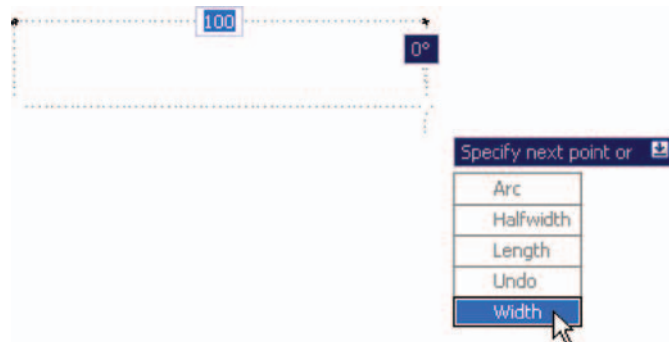

Fig. 3.27 Dynamic Input – first example – Polyline – *click* **Width** in the pop-up menu
3. Move the cursor and press the **down** key of the keyboard. A pop-up menu appears from which a prompt selection can be made. In the menu *click* **Width** (Fig. 3.27).